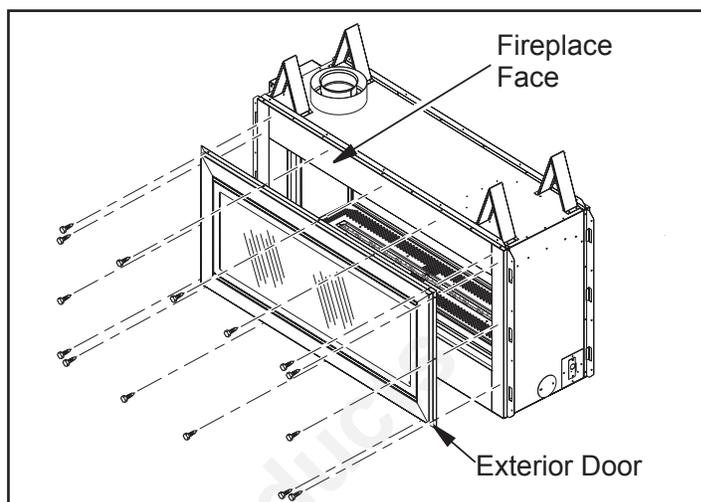

Figure 42 - Installing Exterior Door for See-Thru In/Out Application
2. Using self tapping screws (provided) secure exterior door to the face of the fireplace by drilling through holes on door into the fireplace face (Figure 42). You may choose to drill pilot holes into the face using a 1/8" drill bit. Do not use self tapping screws, use any #10 x 1/2" screw.